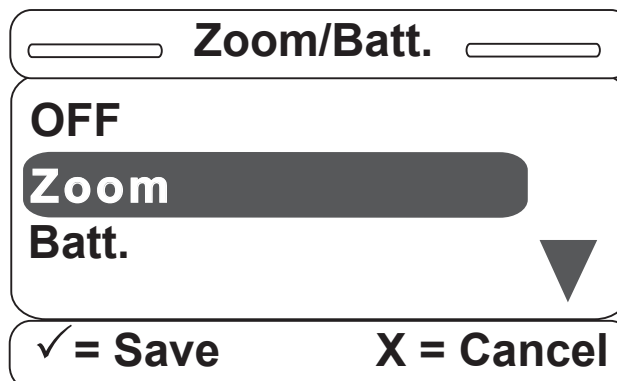

Figure S-6
6. Once the Zoom®/Batt. option is selected, Figure S-6 will be displayed. You can set this option to ON, Zoom® or Battery Backup. Scroll up or down to select one of the three available items and hit "Enter" on the footboard panel.